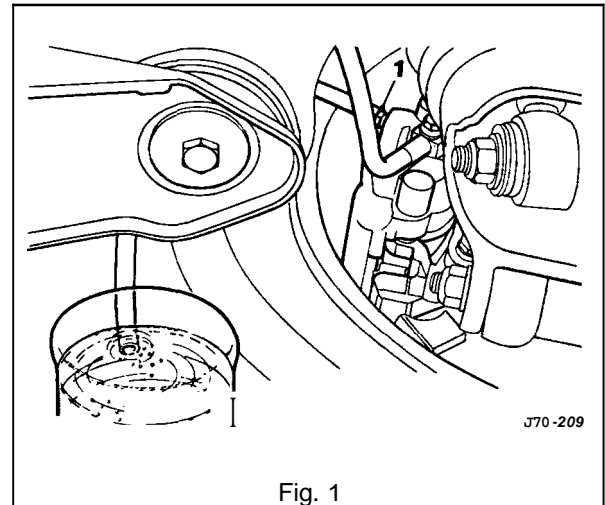

Fig. 1
- Connect the bleeder bottle tube to the relevant front caliper (see 'note' above) bleeder screw (1 Fig. 1) and open the screw.
- Repeat this procedure for the remaining three calipers. (1 Fig. 1) shows the bleeder screw of the rear left caliper.
- Connect the bleeder bottle tube to the relevant front caliper (see 'note' on previous page) bleeder screw (1 Fig. 1) and open the screw.
- Fully release the unions (1 Fig. 1) securing each end of the hose to the fluid pipes. Withdraw the pipe unions (1 Fig. 1) from the hose ends.
- Plug the ends of the pipes (2 Fig. 1) to prevent the loss of fluid and the ingress of dirt.
- Remove the mounting bracket locknut (3 Fig. 1) and remove the hose (4 Fig. 1).
- Fully release the pipe unions (1 Fig. 1).
- Withdraw the pipe (5 Fig. 1) from the vehicle. Plug the pipes (2 Fig. 1) to prevent the loss of fluid or the ingress of dirt. Thoroughly clean and examine the pipe for signs of damage or deterioration. Renew the pipe if there is any doubt about its condition.
- Undo and remove the speed sensor to hub carrier securing bolt (Fig. 1).